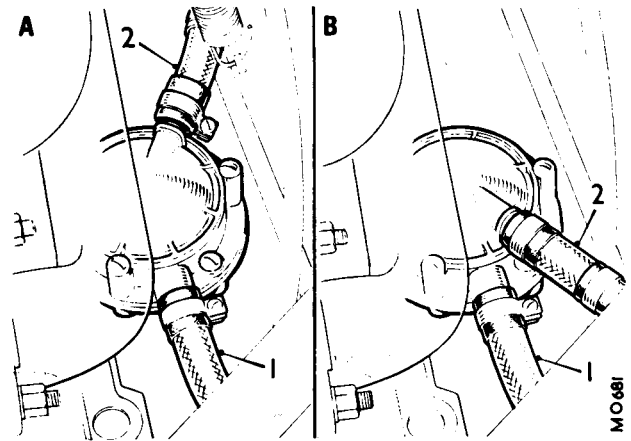

Fig. Db.1
1. Clean the outside of the pump and mark the cover and body for alignment when refitting (see Fig. Db.1 for correct positions of the inlet and outlet connections).